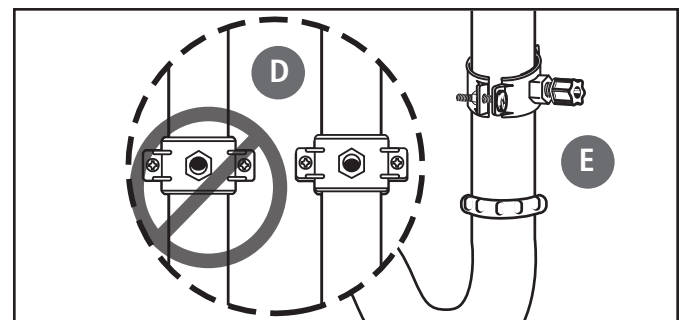

Figure 9
- Make sure the black rubber gasket is adhered to the inside of the drain clamp and place the drain clamp assembly over the drilled hole. Look through the hole and position the clamp so that the center of the clamp hole is slightly higher (about 1/16") than the center of the drilled hole. (See Figure 9). Tighten the clamp securely.